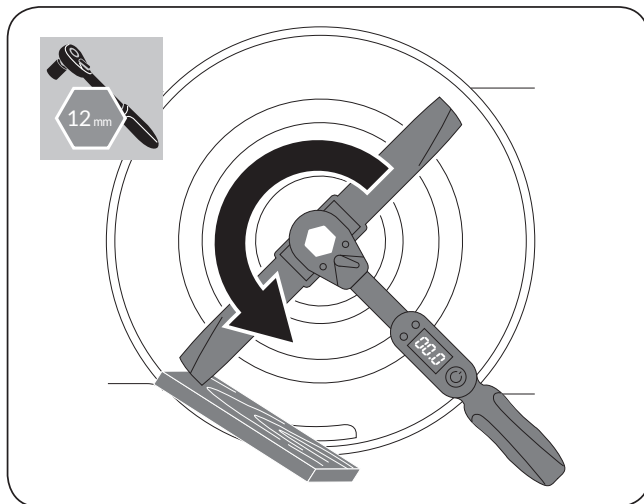

Figure 27
3. Tip the machine onto its side with the air filter and carburetor facing up. Use a block of wood to hold the blade steady. (See **Figure 27**)